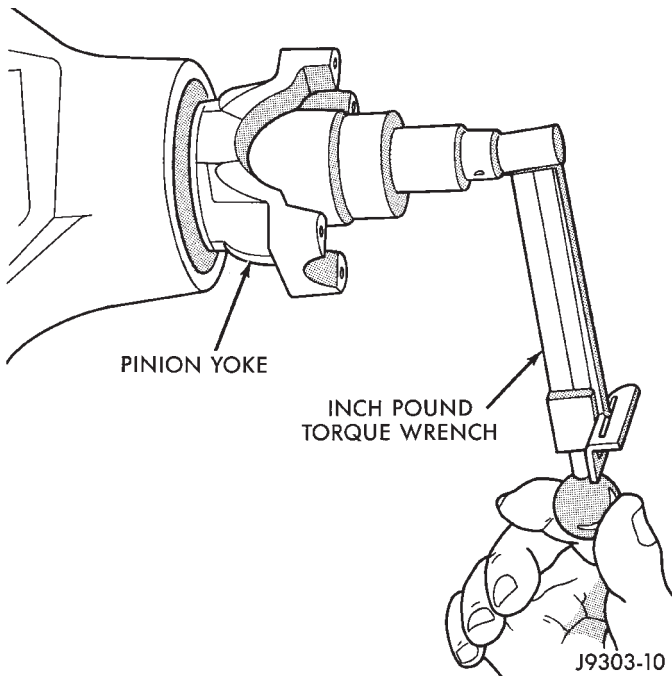

Fig. 9 Check Pinion Rotation Torque
(3) Install the pinion washer and a new nut on the pinion gear. **Tighten the nut only enough to remove the shaft end play.**
(4) Rotate the pinion shaft using a (in. lbs.) torque wrench. Rotating torque should be equal to the reading recorded during removal, plus an additional 0.56 N·m (5 in. lbs.) (Fig. 9).